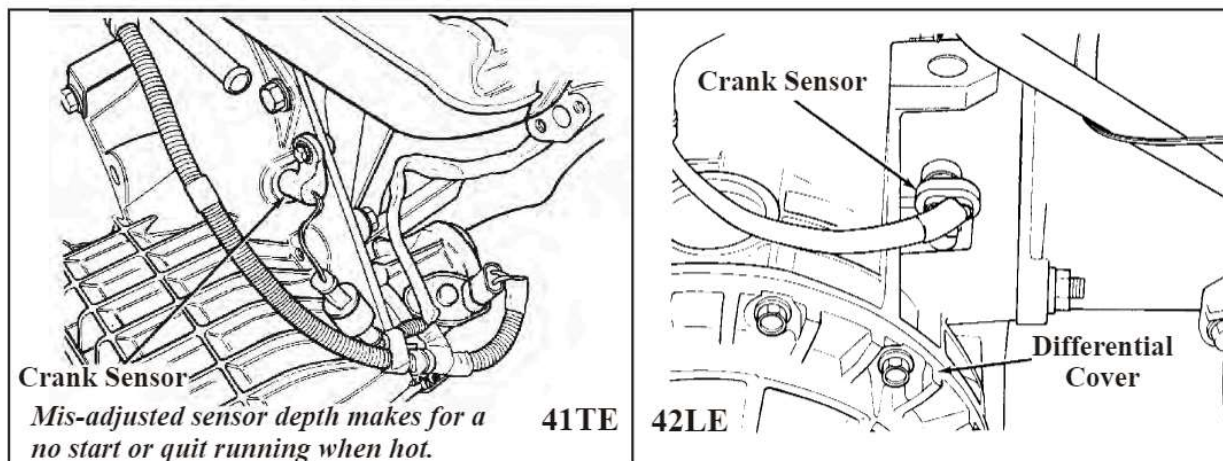
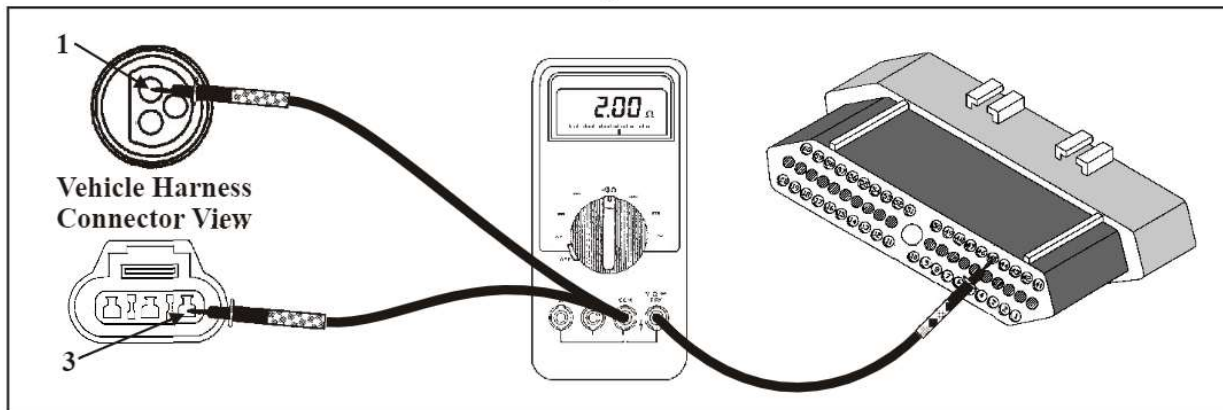

Figure 26
Figure 27
- Locate the crank sensor as shown in Figure 26. Unplug both the crank sensor and the TCM. For **89-95 3.3** and **3.8L** applications perform a continuity check across terminal 1 in the crank sensor connector to terminal 45 in the TCM connector. For all LH vehicles and 96 and later 3.3 and 3.8L, check across terminal 3 in the crank sensor connector to terminal 6 in the TCM connector (See Figure 27). If there is no continuity, repair or replace the wire.